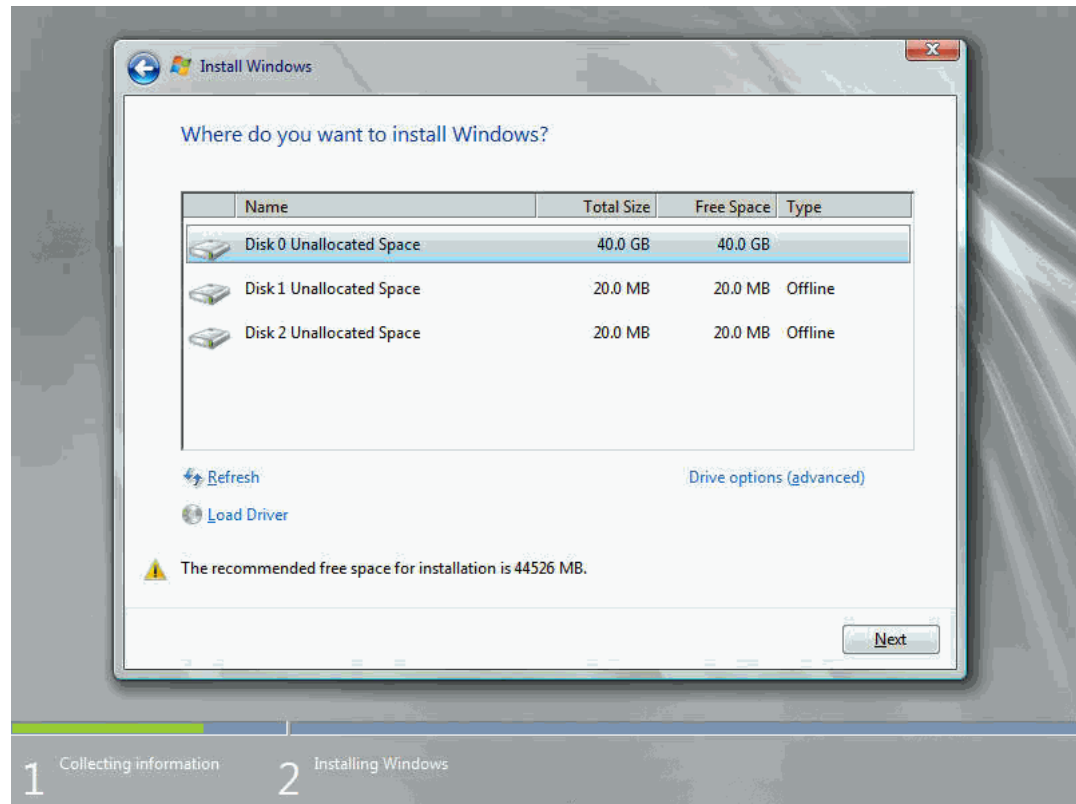

Figure 3-48 Selecting the SAN Volume
6. Follow the instructions by Microsoft to install Windows 2008 R2 with SP1, until it reaches the dialog box, asking **Where do you want to install Windows?** as shown in Figure 3-48.